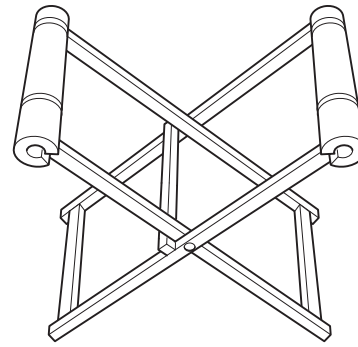

Fig 7. Glass Stand
- 2 After checking for size, remove the new glass and place it on a purpose made glass stand. → Fig 7. (B-22).